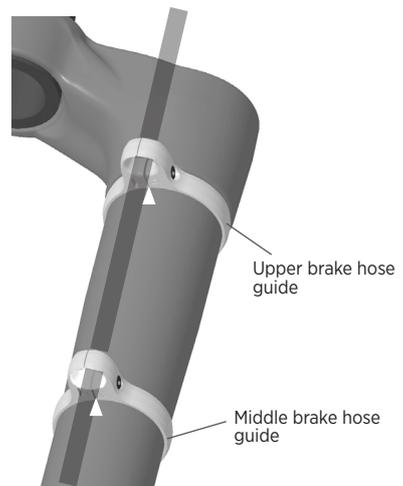

Figure 7: Positioning of brake hose guides
4. Position the middle and upper hose guides so that the bottom slit is aligned with each of the arrow graphics that are laser etched on the fork (represented by the white arrowheads in Figure 7). Use a 2.5 mm hex bit and a torque wrench to tighten the screw to 0.9 N·m (8 in·lb).